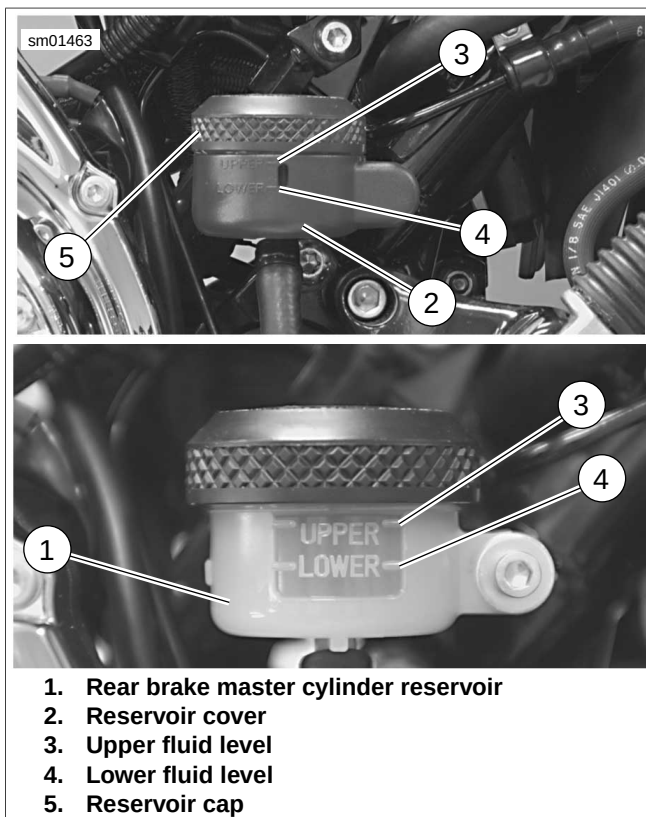

Figure 2-133. Rear Brake Master Cylinder Reservoir
- See Figure 2-133. Reservoir cover (2) may be removed from rear brake master cylinder reservoir (1) to more easily verify fluid level in reservoir.
8. See Figure 2-133. If desired, remove reservoir cover: grasp cover (2) and gently pull straight out from reservoir (1).
9. Remove rear brake master cylinder reservoir cap (5). Add HARLEY-DAVIDSON D.O.T. 4 BRAKE FLUID to reservoir until fluid reaches upper fluid level (3). Do not overfill reservoir. Do not reuse brake fluid.